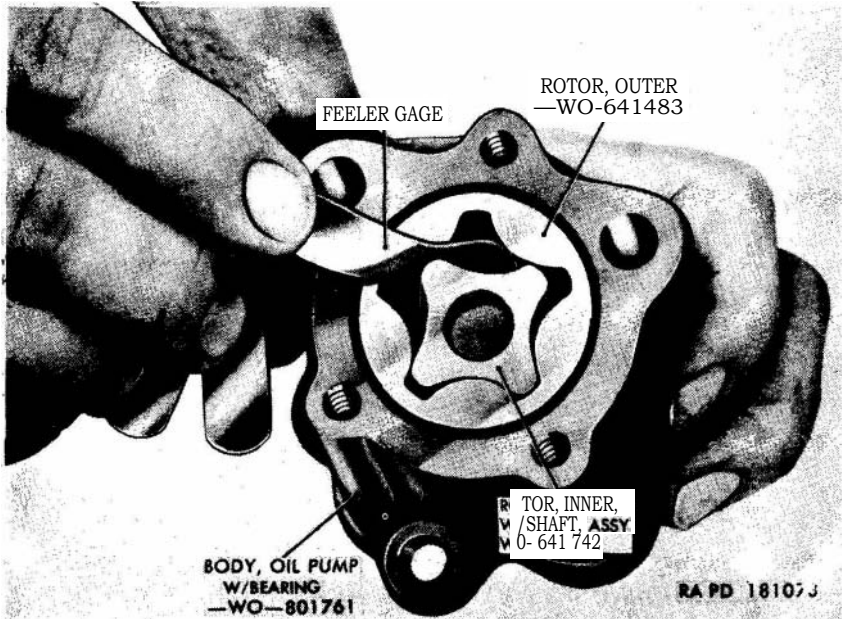

Figure 62. Checking clearance between *Omer* and outer oil pump rotors.
- (6) Position the two rotors so that the lobe of the inner rotor is entered as far as possible into one of the notches of the outer rotor (fig. 62). With the rotors held in this position, insert a feeler gage between the opposite inner rotor lobe and the curved section of the outer rotor and gage the clearance. If the clearance exceeds 0.010-inch, replace both rotors.
- (7) Measure the length of both rotors, and discard them if either one exceeds the length of the other by more than 0.001-inch.